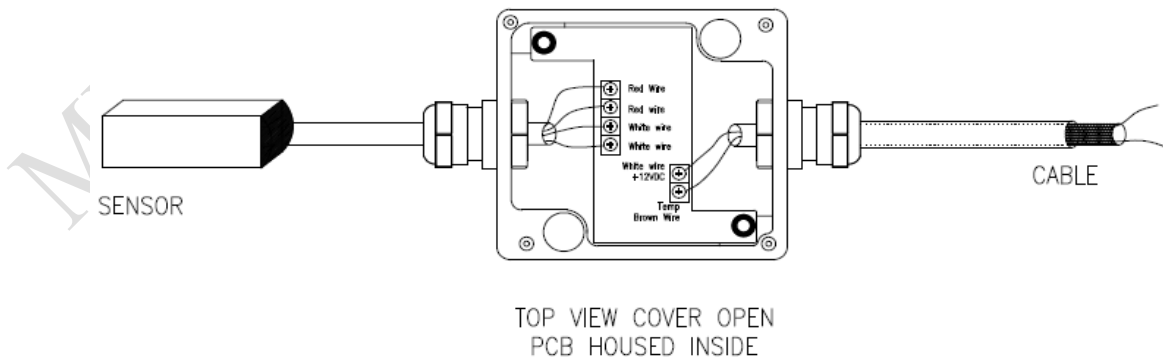

Fig 4.1 – Wiring inside the enclosure
- ii) Connect the sensor extension cable as shown in the fig 4.1 (for 3 wire PT1000 sensor, the 4th terminal to be shorted with the 3rd terminal inside transducer)